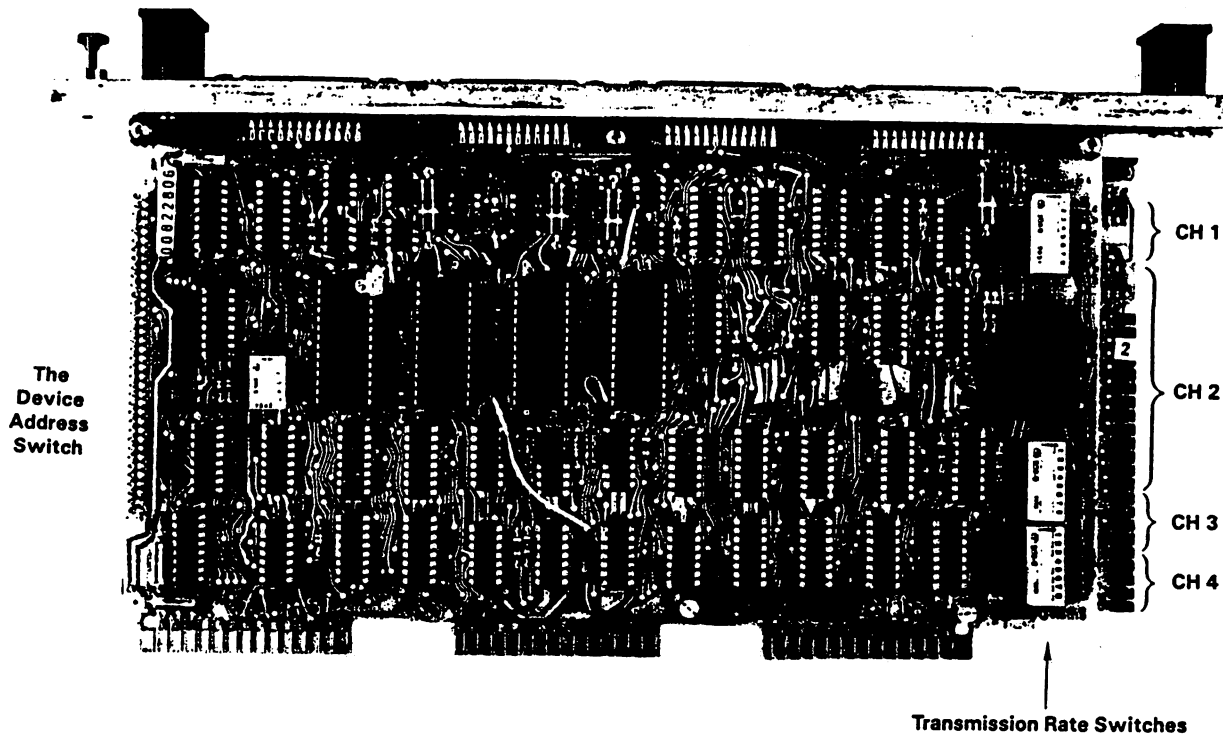

Figure C-1 Transmission Rate and Device Address Switches on the 2236MXD Terminal Processor
3. Locate the three 8-position DIP switches on the processor board used to set the transmission baud rate. (Refer to Figure C-1).
5. For each terminal, set the corresponding processor switch to the same data transmission rate used on the terminal. The 24 switches are divided into four sets (one set for each terminal). Each set is divided into six switches (one switch for each data rate of each terminal). (Refer to Figure C-1).
3. Locate the 5-position DIP switch on the 2236MXD Terminal Processor used to set the device address. (Refer to Figure C-1).